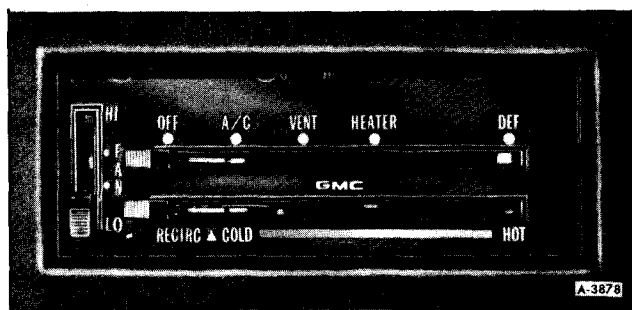

Figure 24—Air Conditioning Controls, Type 2
- "Type 2 Fan" (figure 24) — The fan switch has four positions; "LO" and three blower speeds ranging to "HI". Fan will operate whenever the key is in the "RUN" or "ACCESSORY" position. In order to operate the fan in the "HI" position the engine must be running.